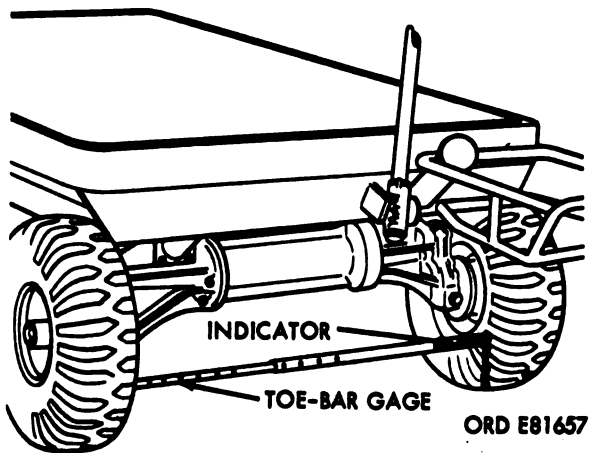

Figure 2-88. Position of toe-in and toe-out bar gage.
- (1) Position vehicle on smooth, level surface.
- (2) Inflat tires to correct pressure (par. 2-62b).
- (3) Set wheels in the straightahead position.
- (4) Place toe-in and toe-out bar gage (fig. 2-88) from tool kit Automotive Organizational Maintenance